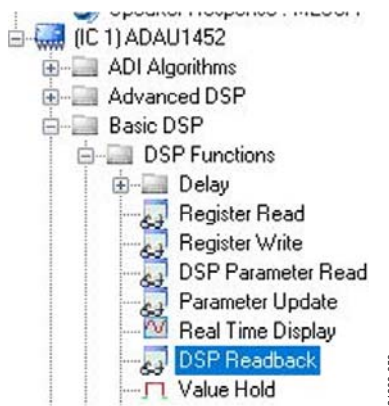

Figure 54. Adding the **DSP Readback** Component
- Add two **DSP Readback** blocks to the project space by clicking the **DSP Readback** component from the **Basic DSP > DSP Functions** folder (see Figure 54), and then dragging it to the project space.